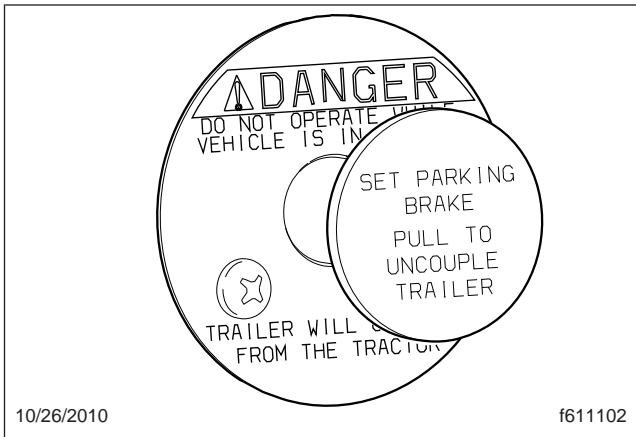

Fig. 17.10, Air-Actuated Kingpin Release Valve
An air-actuated kingpin release valve is optional with all fifth wheels. See Fig. 17.10.
2. Pull and hold the kingpin release valve until the kingpin lock mechanism opens and locks in place. See Fig. 17.10.